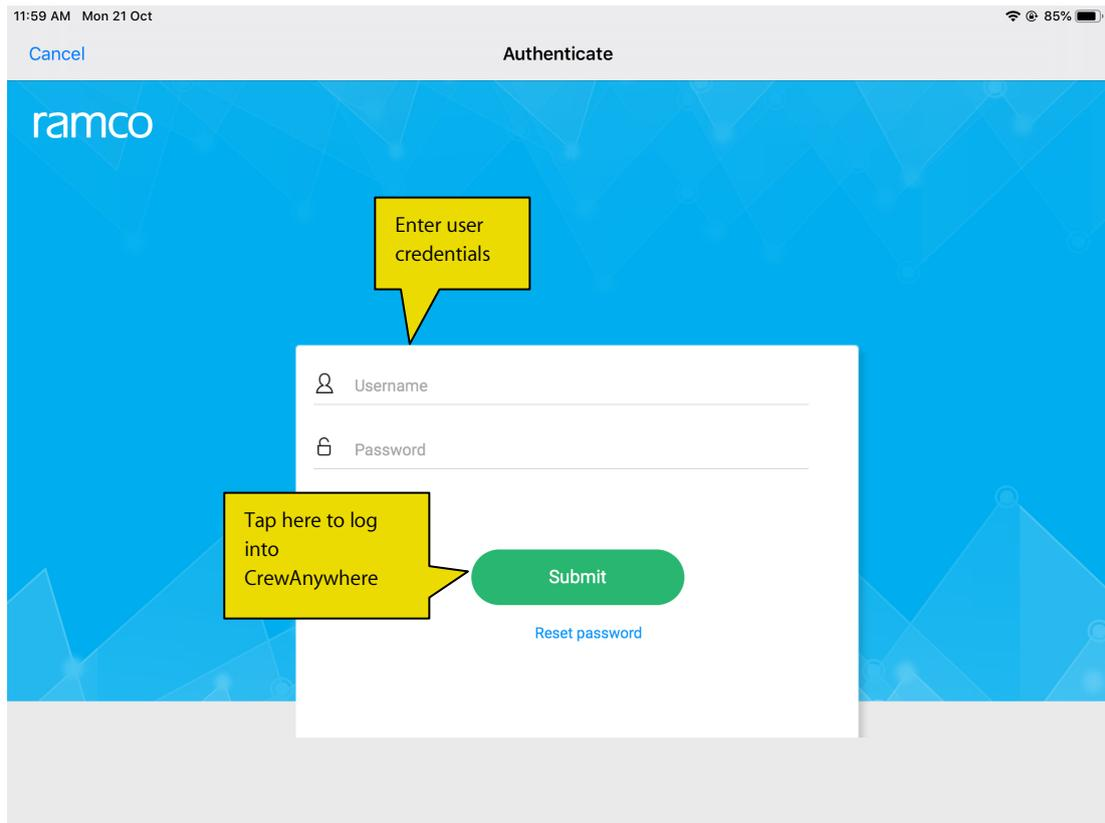

Figure 4.2: The Authenticate screen of CrewAnywhere
2. Tap the **CrewAnywhere** icon in the iPad screen. The authenticate screen comes up. See *Figure 4.2*.